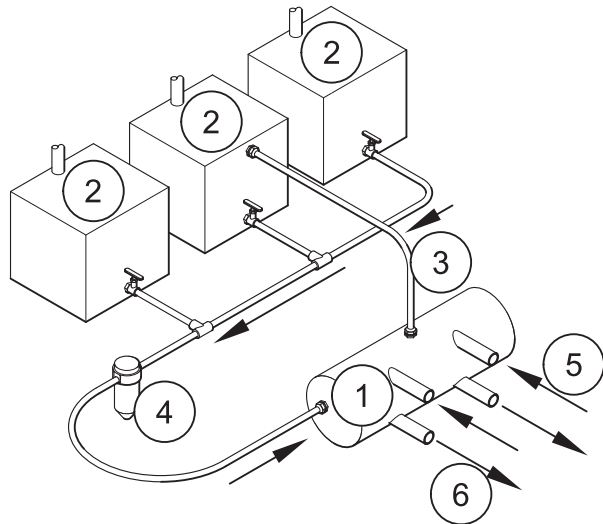

Figure 28
Figure 28 shows a collector tank (1), fed by all the storage tanks (2) and connected to the engine feed and return systems, but with a vent pipe (3) taken to any convenient tank and connected to it at the highest point. The fuel feeds (5) should be taken from the bottom of the collector tank and the fuel returns (6) at the top.